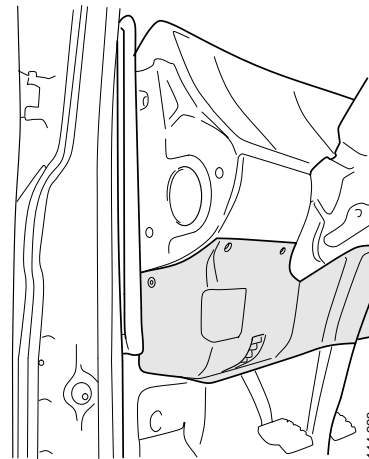

Fig. 1.
1. Remove the protection cover mounted against the A-pillar. See fig. 1.